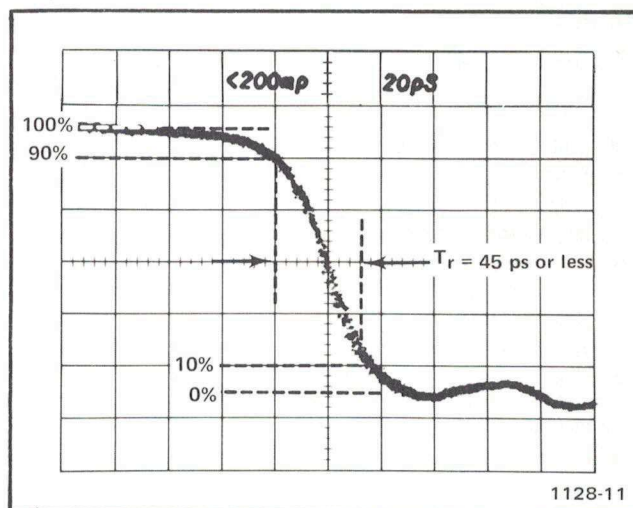

Fig. 4-4. Reflected pulse risetime of the S-6, S-52 and 7S12 system.
f. Check that the reflected pulse risetime from the 90% level to the 10% level is 45 ps or less. See Fig. 4-4 for this waveform.